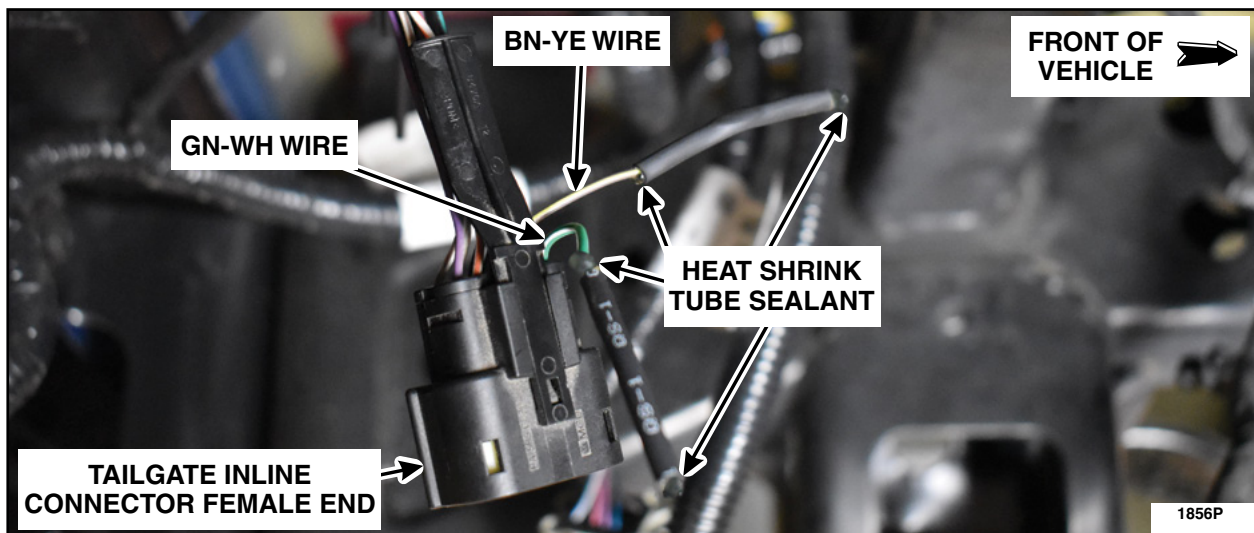

FIGURE 71
17. Install a piece of dual wall heat shrink tube on the GN-WH and BN-YE wires making sure the end of the wire is located in the middle of the tube. Evenly heat up the heat shrink tube until the heat shrink tube sealant bubbles out of both ends. See Figure 71.